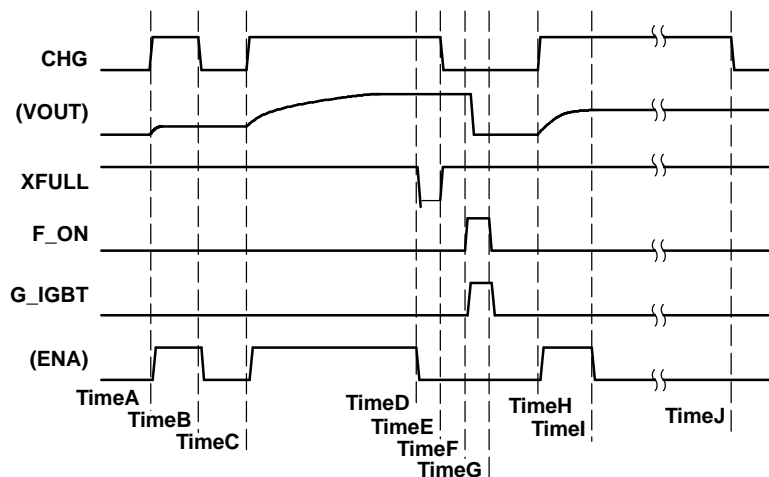

Figure 4. Whole Operation Sequence Chart
The only way to *start* charging is to input $\text{CHG}\uparrow$ (see time A/C/H in Figure 4). Each time $\text{CHG}\uparrow$ is reached, the TPS65552A starts charging.
1. Forced *stop* by inputting $\text{CHG} = \text{L}$ from the controller (see timeB in Figure 4).
2. Automatic *stop* by detecting full charge. VOUT reaches the target value (see TimeD in Figure 4).
3. Protected *stop* by over V_{DS} detection (see TimeI in Figure 4).
The device starts charging at timeH, and over V_{DS} protection occurs at TimeI (see Figure 4). At timeI, XFULL stays H, and the controller detects over V_{DS} protection when the timer ends at timeJ. In this event, the controller inputs $\text{CHG} = \text{L}$ to terminate the operation.
The IGBT driver provided by the TPS65552A is a simple buffer in the logical table. Table 3 shows the function (see Figure 4).
To avoid the stress of power dissipation, the TPS65552A provides an overvoltage monitor function at the SW terminal. If this protection occurs, the overvoltage status is latched (see Figure 4 and its descriptions).